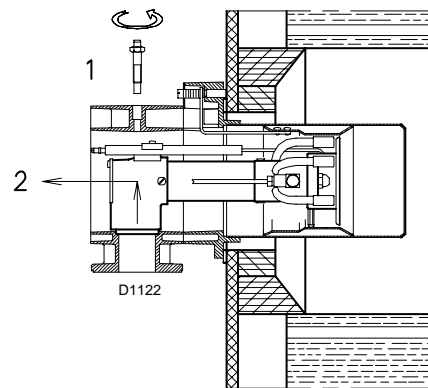

Fig. 12
- Remove screw 1)(Fig. 12) and extract the nozzle assembly 2).